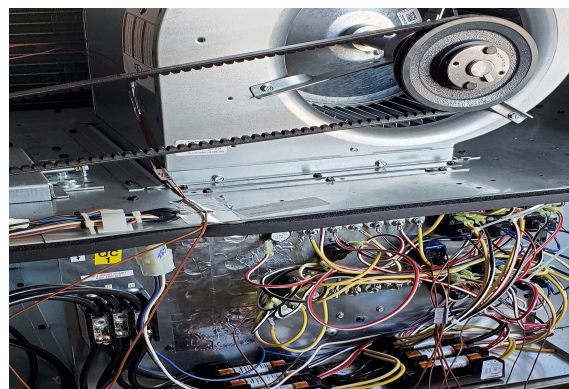

Fig. 3. Installed heater assembly.
3. Route wires from the heater control box to the heater element section. Tighten wire harness with clips and metal fastening belts located on the unit (see fig. 3). Installation requires a dual feed power supply to the heater and unit contactor for power connection.